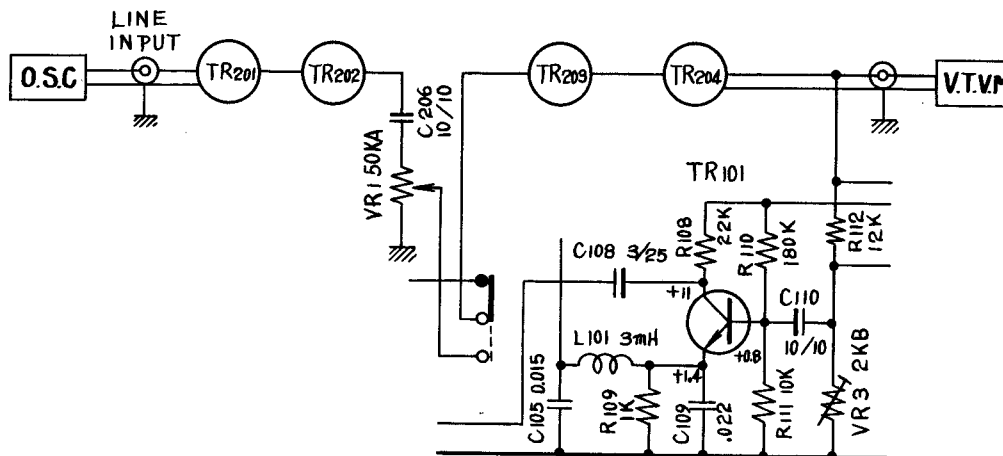

Fig. 4
(B) Recording and Playback (See Fig. 4)